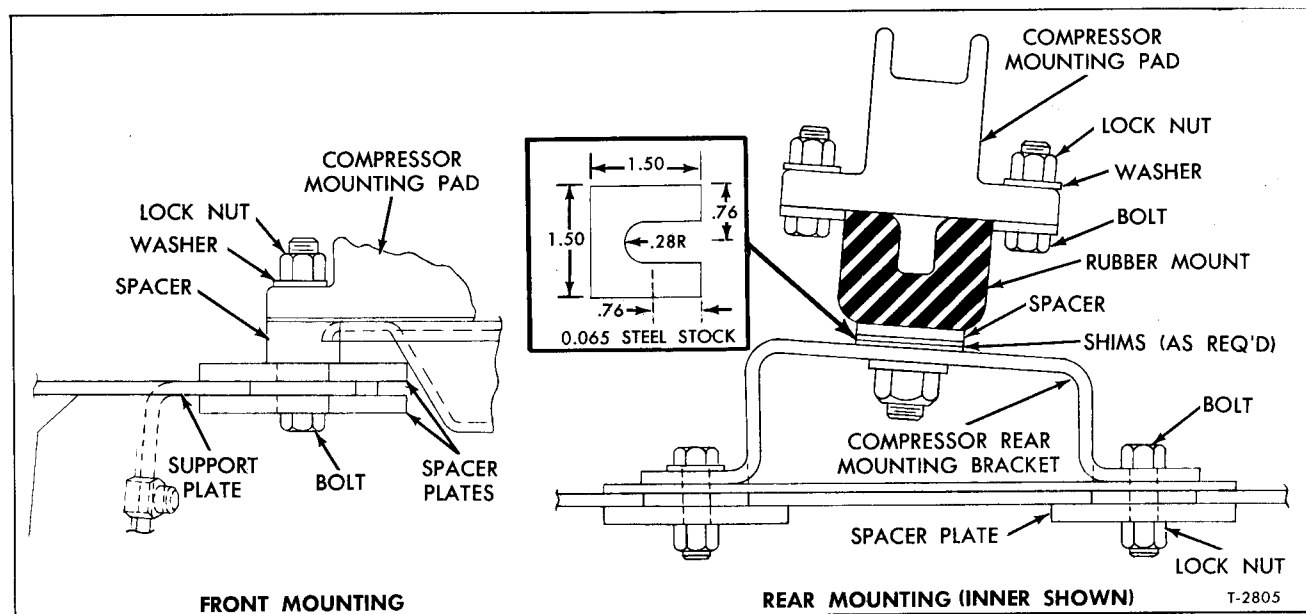

Figure 27—Compressor Mounting and Shim Details
2. Attach rubber mounts, shims, and mounting brackets to compressor. See figure 27 for cross section of compressor mountings. Place compressor into compartment.
3. Install four bolts with spacers which attach inner and outer rear brackets to body and hand-tighten with spacers and spacer plates positioned as shown in figure 27, install front mounting bolts, washers, and nuts and hand-tighten.
9. Alignment of compressor to proper drive angle should generally be accomplished by positioning compressor in oversized mounting holes. However, rear mounting shims may have to be added or removed (fig. 27) if any of the mounting components have been replaced.